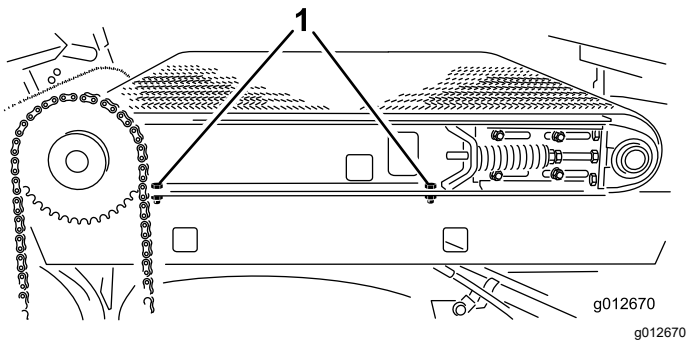

**Figure 35**
- At the left side of machine, assemble the slider-frame rail to the left fender (Figure 35) with the 2 capscrews and 2 washers that you removed in Disassembling the Slider Bed (page 23), and tighten the capscrews.